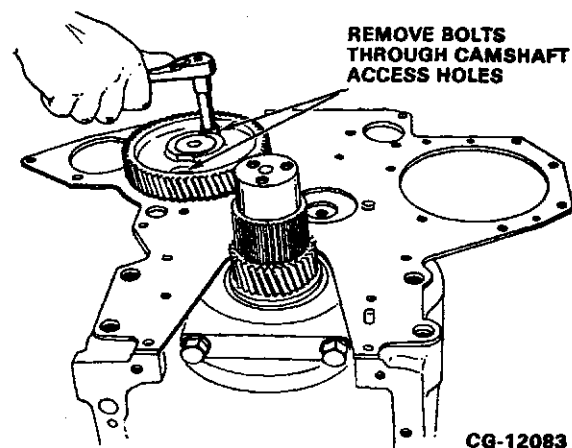

Figure 5.17. Remove Thrust Plate
- Remove the two thrust plate bolts and washers. Refer to Figure 5.17.